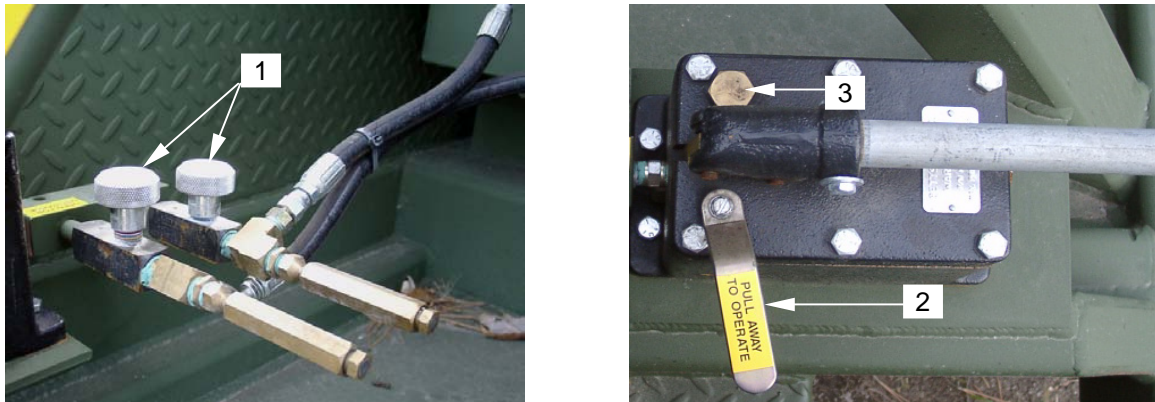

Figure 7. Checking Hydraulic Fluid Level
13. With both control knobs (figure 7, item 1) open, place the pump lever (figure 7, item 2) along handle. Open fill port (figure 7, item 3) and check fluid level. Top off as necessary.